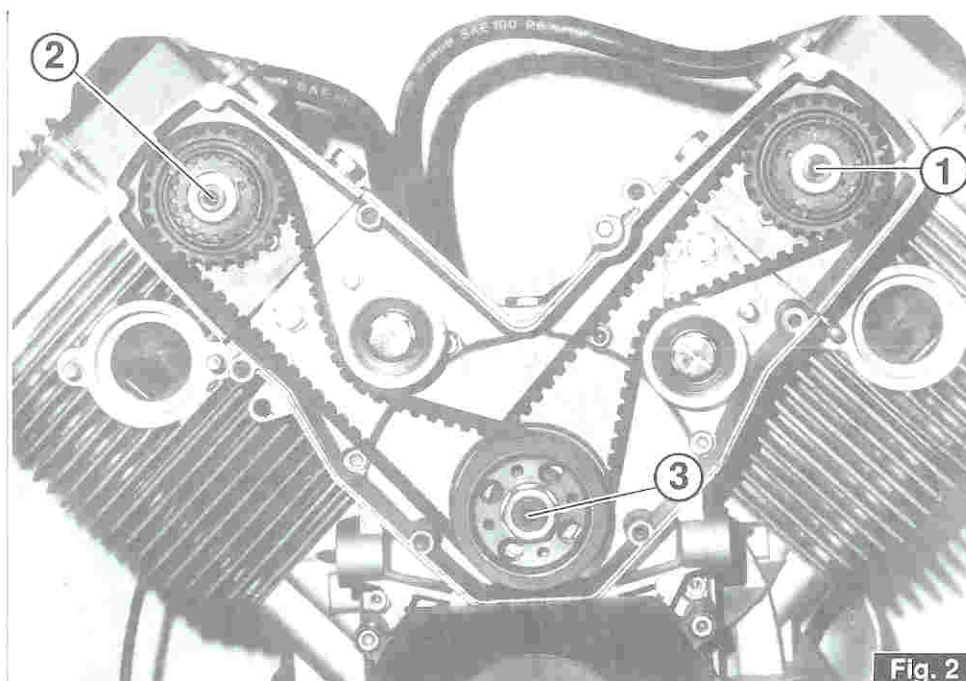

Fig. 2
- Check the timing references as indicated in fig. 2;